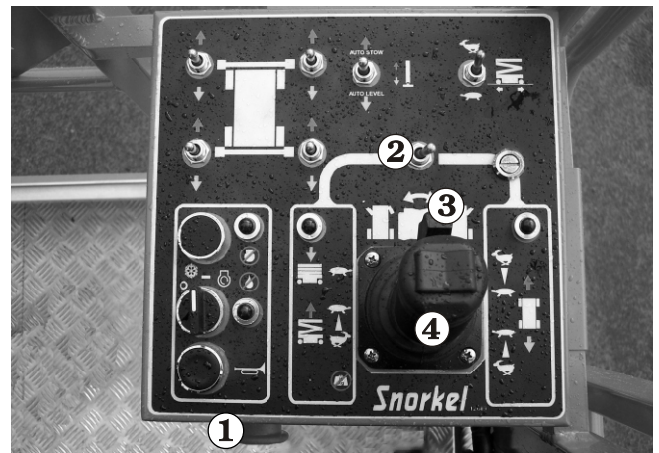

Figure 9.3
2. Set the **Selector** switch ② (see Figure 9.3) to the platform function (left).
3. Squeeze the **Safety Control** ③ and push the **Joystick Controller** ④ (see Figure 9.3) forward. The platform should lower. If it does not lower, call for help from someone on the ground.